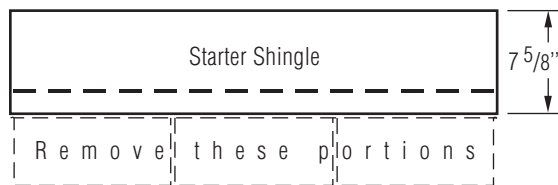

Figure 12-6: Make starter shingles that are 7⁵/₈" in height.
1. Use CertainTeed Swiftstart Starter, or three-tab self-sealing shingles with the lower tab portions removed. Be sure that the starter shingles are at least 7⁵/₈" in height. (Figure 12-6).